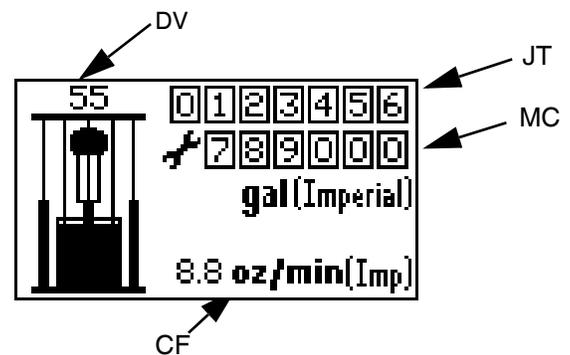

FIG. 4: Run Mode Screen
3. The Splash screen (FIG. 3) will flash on while the progress bar fills from left to right. It will then go directly to Run mode (FIG. 4).
See FIG. 2 and FIG. 4.
2. While in Prime Mode, the job total counter (JT) is blank and will not count. However, the maintenance counter (MC) will continue to decrement.
3. When a new drum is installed, press and hold  while in Prime Mode to reset the drum volume remaining (DV) to the drum fill volume (DF).
4. To exit Prime Mode, press . The Prime symbol will disappear and the LED will stop flashing; the screen will return to Run Mode (FIG. 4).
NOTE: If a key is not pressed within one minute of entering a setup screen, the system will return to Run Mode (FIG. 4).
- a. Press and release  to enter Diagnostic Mode from Run Mode (FIG. 4).